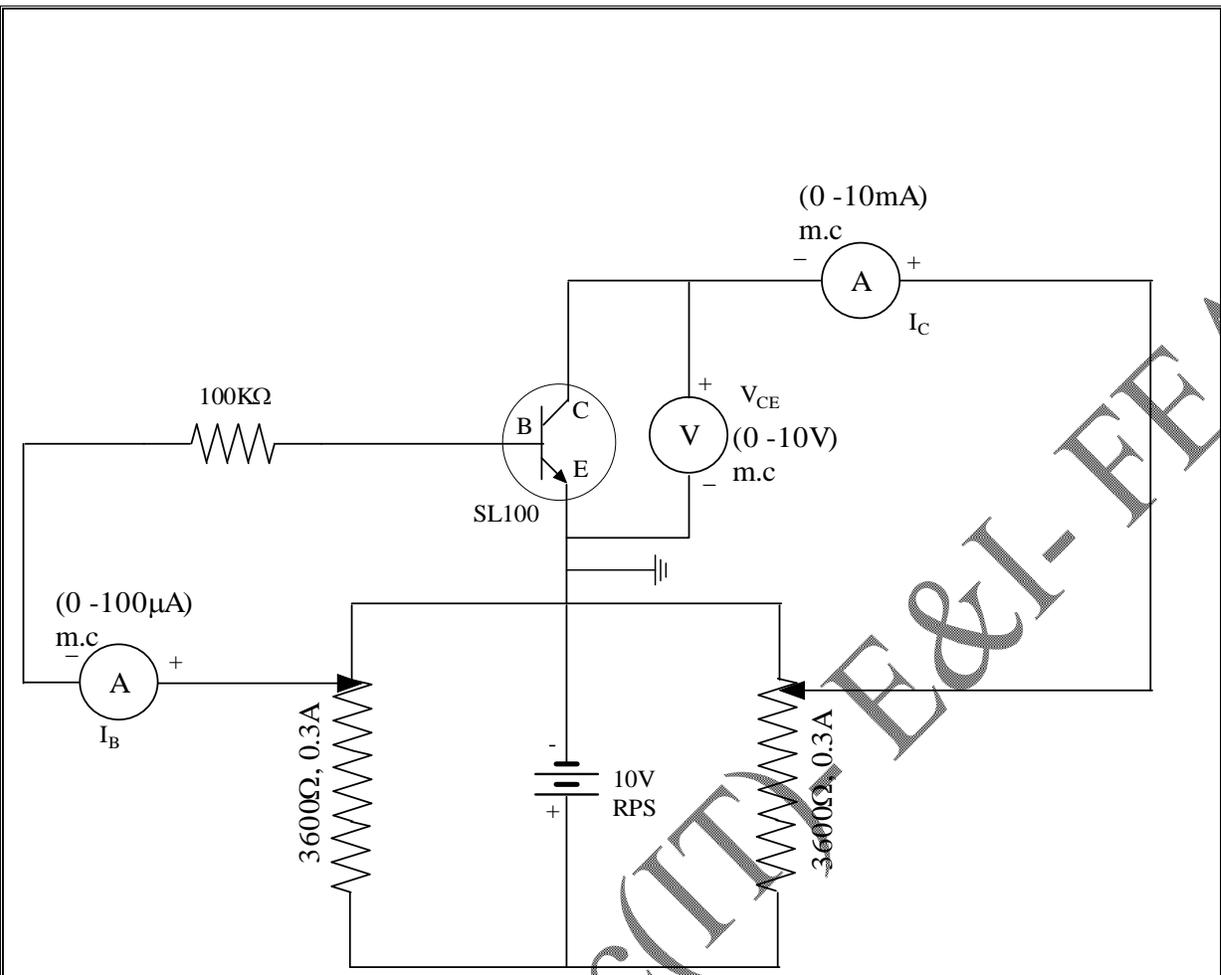

Figure.2 Output Characteristics
1. Give the connection as shown in Figure.2